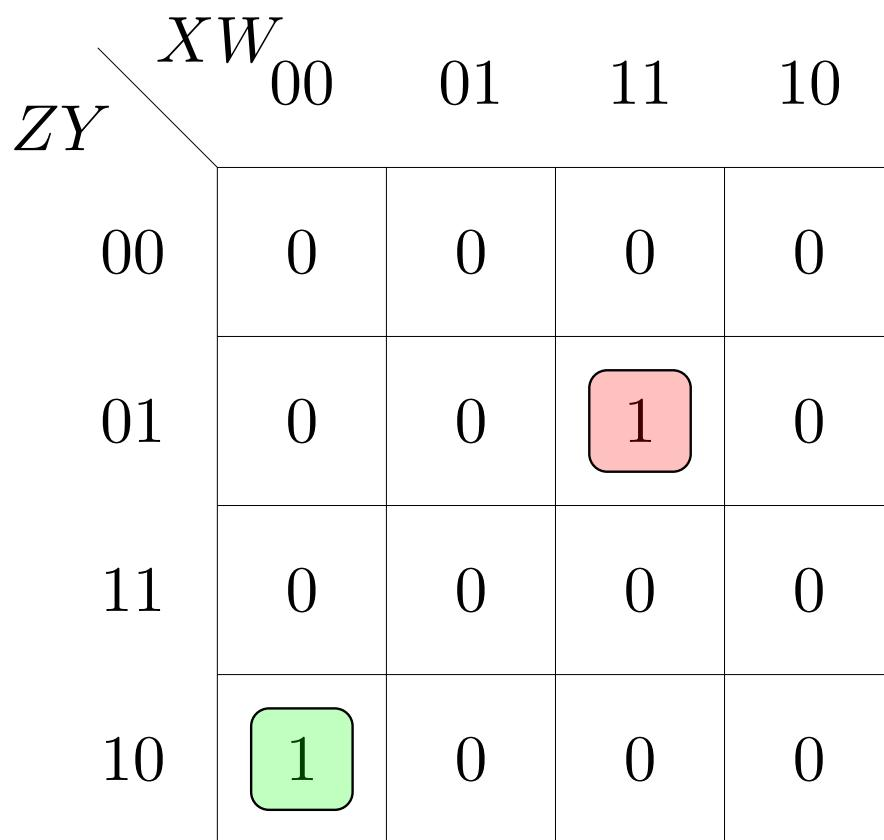

Figure 4.4: K-map for D
7. Minimize (4.8) using Fig 4.4